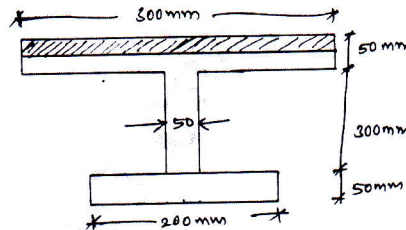

Fig.Q5(b)
- b. A cast iron bracket, subjected to bending has a cross section of I-shape with unequal flanges as shown in Fig.Q5(b). If the section is subjected to a shear force of 1600kN, draw the shear stress distribution over the depth of section.